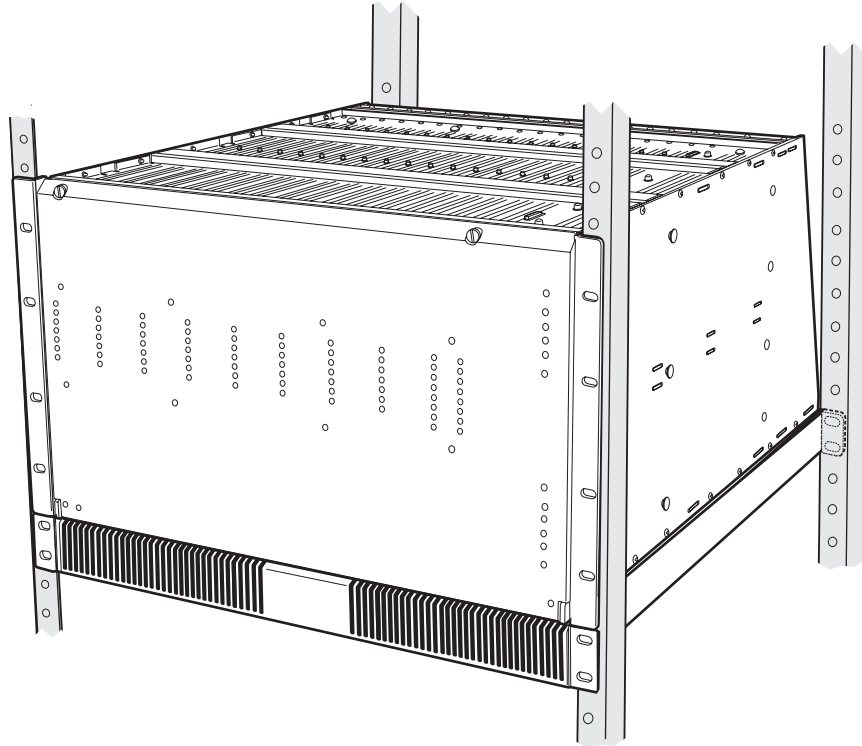

Figure 2. Mounting the CM9770-MXB on Top of the Mounting Baffle
2. Install the CM9770-MXB matrix bay on top of the mounting baffle. Refer to Figure 2.
NOTE: Figure 2 illustrates the recommended mounting method. For an alternate, open-rack mounting method, refer to the *Mounting the CM9770-MXB in an Open Rack* section in the *Appendix*.